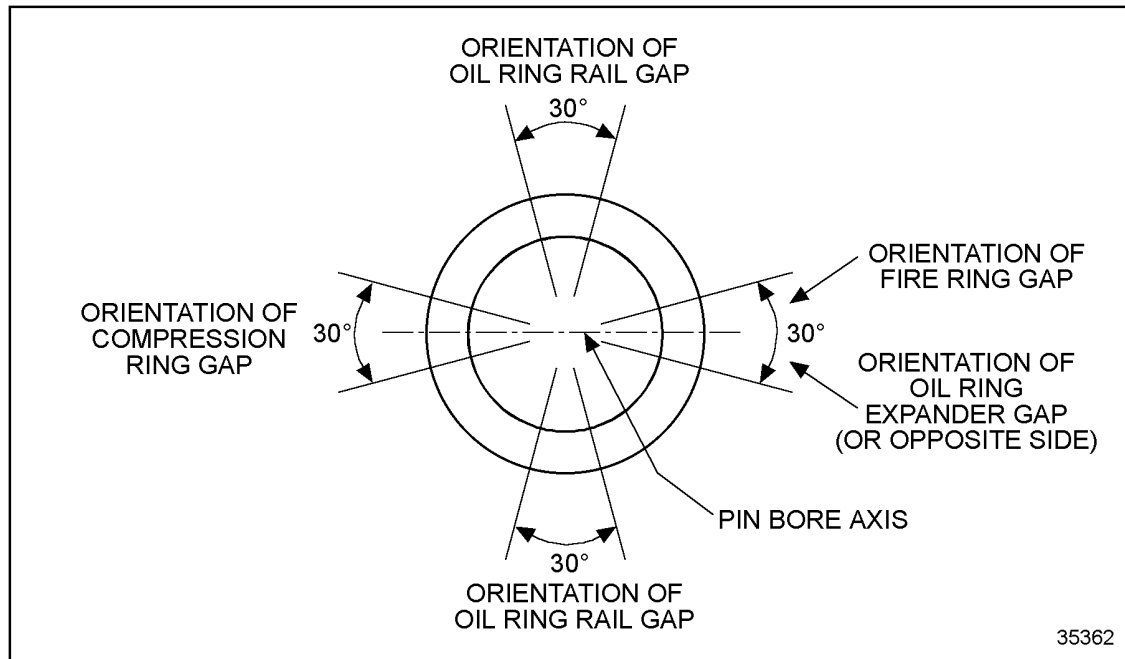

Figure 1-238 Top View of Piston Dome
3. Stagger the ring gaps around the piston. See Figure 1-238.